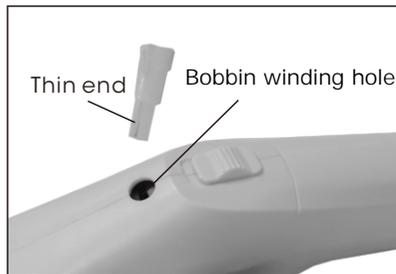

Fig. 1
2. Align the thin end slot of the pin with the two positioning ribs of the bobbin winding hole on top of the machine, and insert the pin downward (Fig. 1).